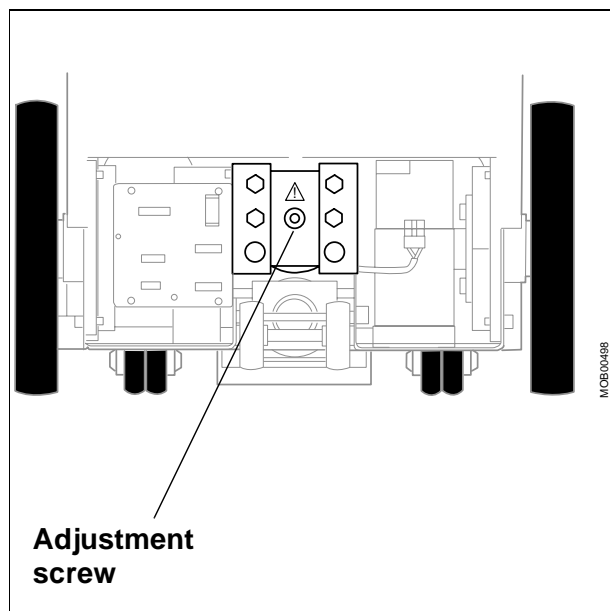

Fig. 18
- Relieve the spring tension by loosening the adjustment screw (Fig. 18).
- Tighten the adjustment screw (Fig. 18), so that the single tank is balanced.